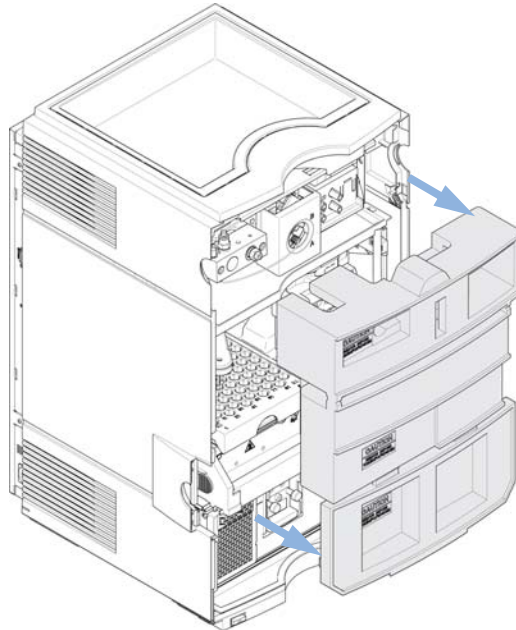

Figure 2 Remove the Transport Foam
- 14 Before switching on the module check that all transport foams have been de-installed (see Figure 2 on page 38). Then switch on the module via the power push button.